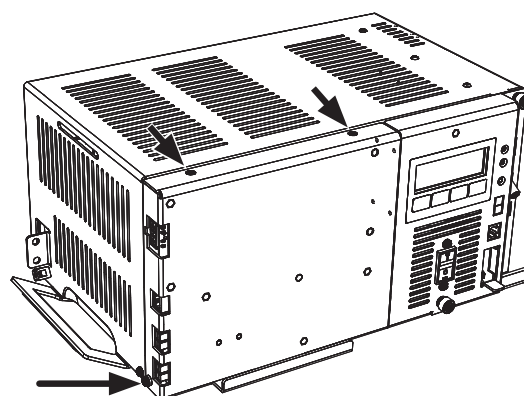

Fig. 1, Front Panel Screw Locations
2. To remove the transformer module's front panel, remove the three front panel screws (one from the bottom left on the transformer's panel, two from the top), see Fig. 1.